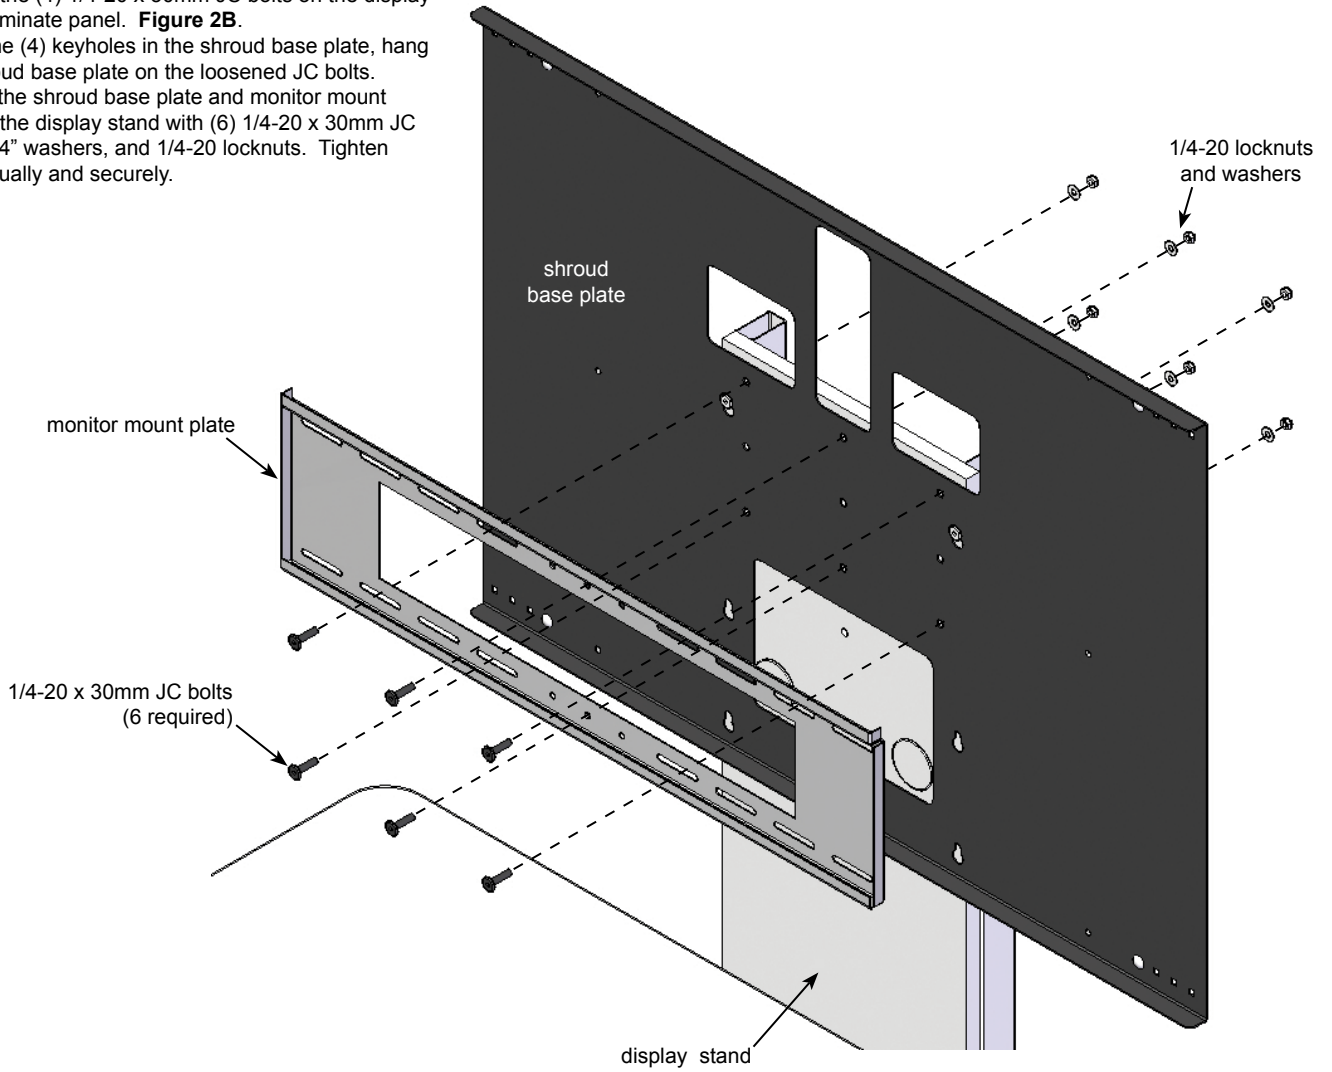

Figure 2B
2. Loosen the (4) 1/4-20 x 30mm JC bolts on the display stand laminate panel. **Figure 2B.**
3. Using the (4) keyholes in the shroud base plate, hang the shroud base plate on the loosened JC bolts.
4. Secure the shroud base plate and monitor mount plate to the display stand with (6) 1/4-20 x 30mm JC bolts, 1/4" washers, and 1/4-20 locknuts. Tighten bolts equally and securely.